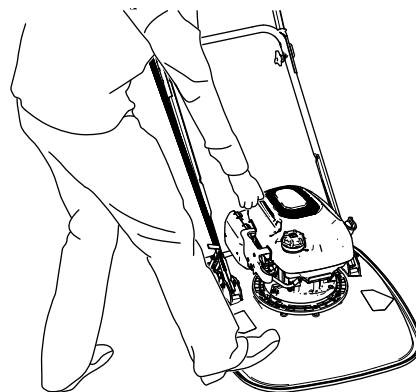

Figure 23
3. Place your foot on the deck and tilt the machine toward you (Figure 23).